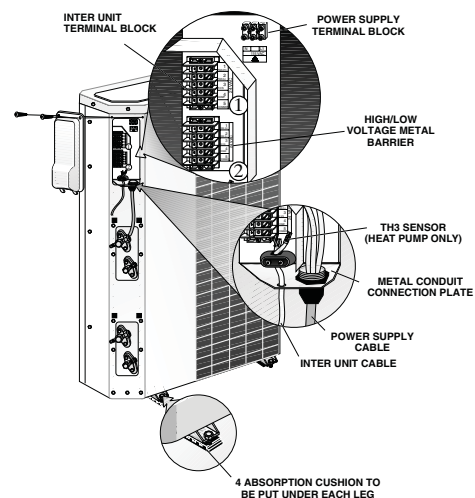

Fig. 12 — Legs Mounting Base and Wiring Outdoor Units
2. Fasten the outdoor unit legs to the mounting base, as shown in Fig. 12. The cushion goes between the legs and the mounting base.